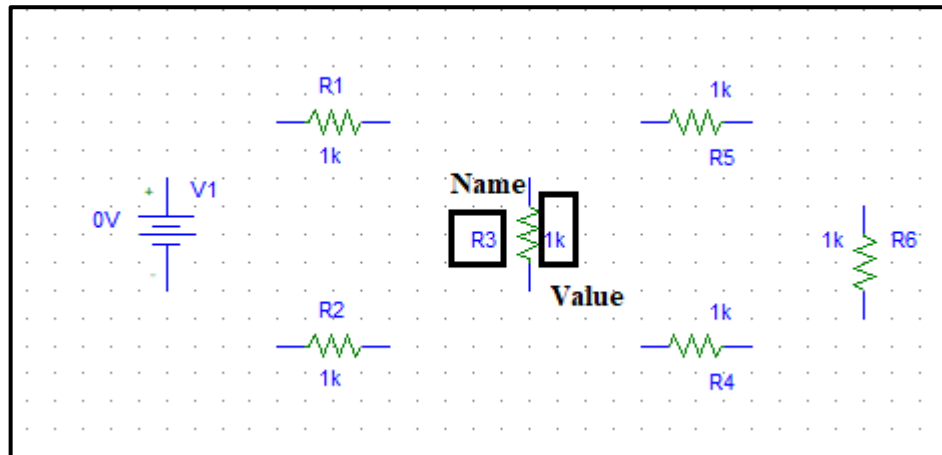

Figure.6
- Note that when you place parts, each circuit part in PSPICE has a name and a value as shown in figure.6 Always make sure to place circuit parts in PSPICE in a similar way to the circuit given in manual. For example, check the way the parts are placed in figure.6.